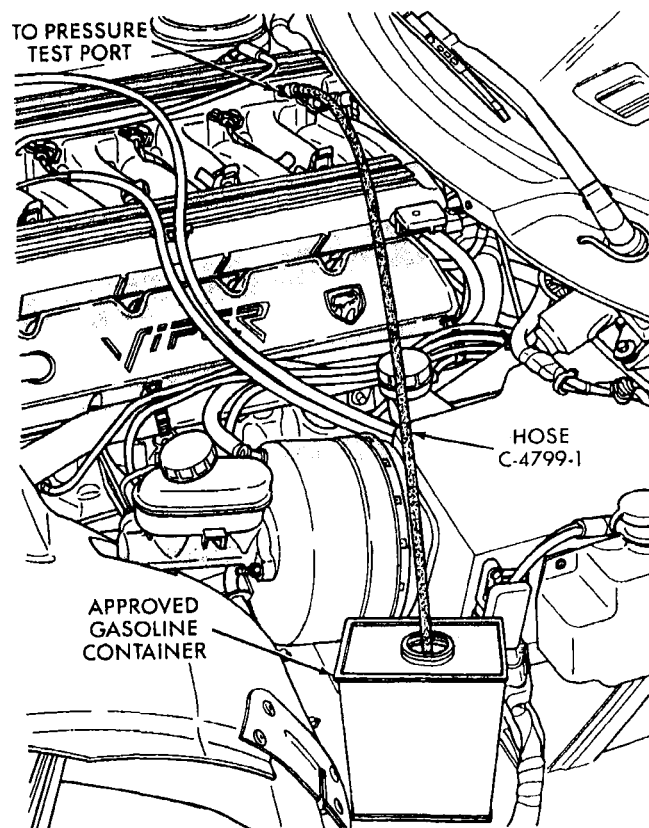

Figure 16
- b. Place the open end of the fuel pressure release hose, special tool number C-4799-1, into an approved gasoline container. Connect the other end of the hose (C-4799-1) to the fuel pressure test port (Figure 16). The fuel pressure will bleed off through the hose into the gasoline container.
- b. Place the open end of the fuel pressure release hose, special tool # C-4799-1, into an approved gasoline container. Connect the other end of the hose to the fuel pressure test port (Figure 16). The fuel pressure will bleed off through the hose into the gasoline container.